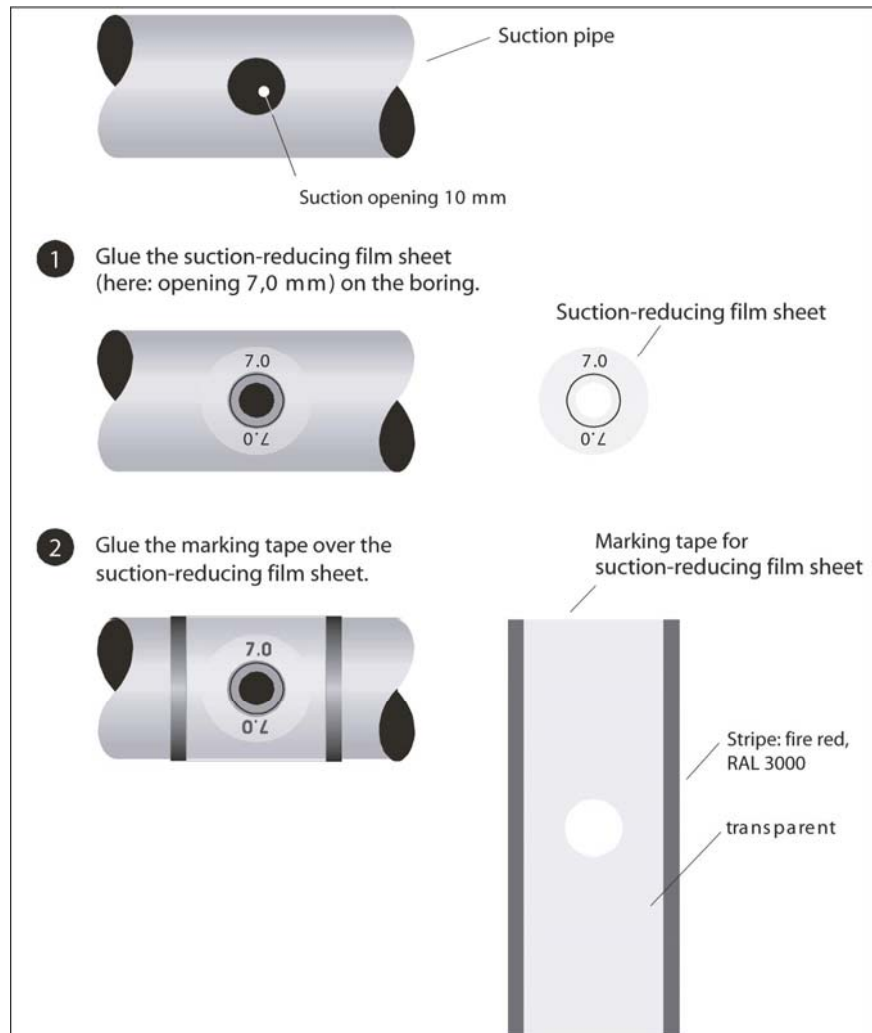

Fig. 6.2: Applying the suction-reducing film sheet
5. Glue the suction-reducing film sheet on the boring (see Fig. 6.2).